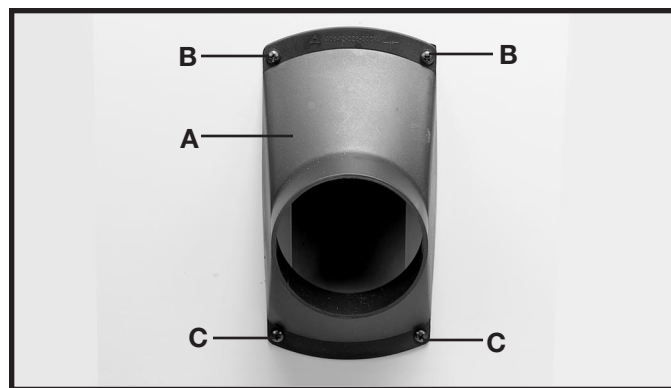

Fig. 15
- A. Align the four holes in the dust port (A) Fig. 15, with the four holes in the side of the stand.
- B. Insert a #10-32x1/2" pan head screw through the two holes in the dust port (B) Fig. 15, and stand. Thread a #10-32 hex nut onto the screw, and tighten securely.
- C. Repeat this process for the two remaining holes (C) in the dust port, stand, and dust chute.
**NOTE: THE DUST CHUTE WILL ONLY BE ATTACHED WITH THE TWO BOTTOM HOLES (C) IN THE DUST PORT.**